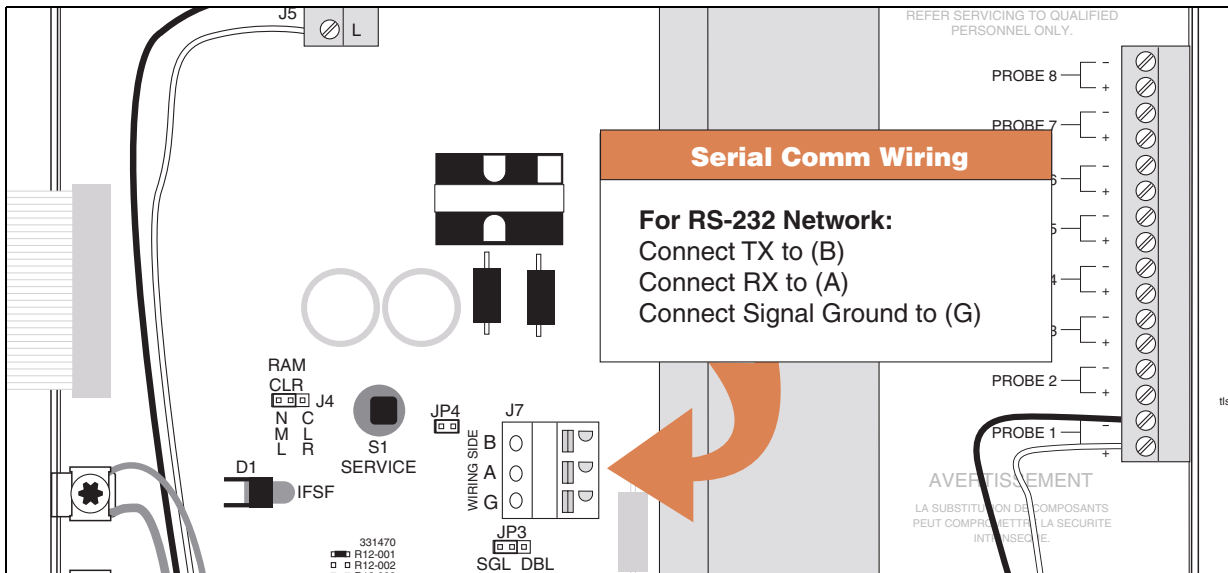

Figure 27. Connecting serial communication wiring to TLS-IB
With AC power switched Off, connect the serial communication wiring to J7 in the TLS-IB as shown in Figure 27.
- No RS-232 hardware handshaking options; RX, TX, and Signal Ground. The TLS-IB serial interface connections to J7 (on TLS-IB Power Supply Board, see Figure 27 on page 32) are shown in Table 8.